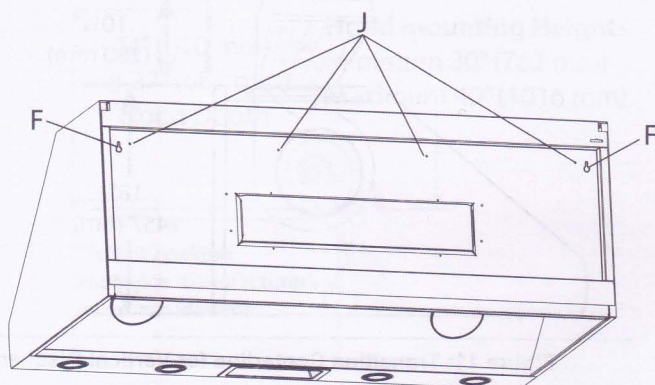

Figure 13: Location of Screw Keyholes
14. Using two people to lift, rest the hood on the screws in the wood bracket. Use the keyholes labeled "F" in *Figure 13*. Make sure the wood bracket fits into the recess on the back of the hood.
16. From inside the hood, drive 5/8" (16 mm) screws through holes in hood into wooden bracket. See holes labeled "J" in *Figure 13*.